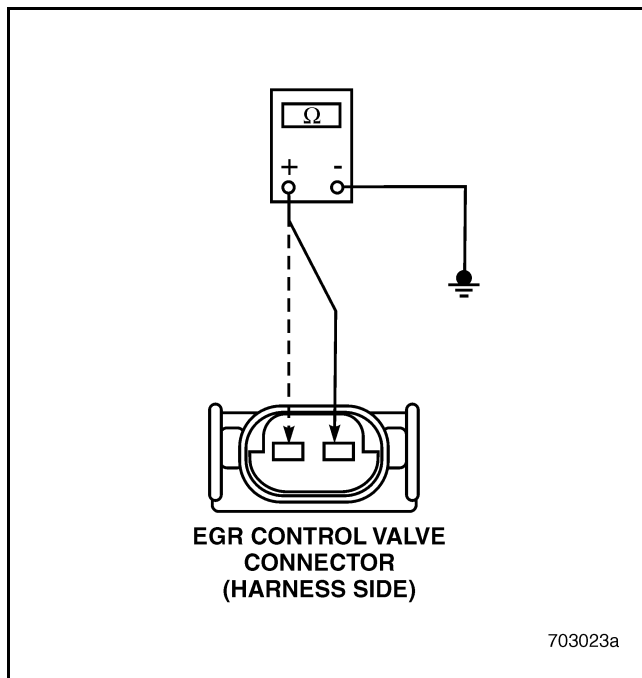

Figure 526
4. Check for continuity between each pin of the EGR Control Valve harness connector versus a good ground (see Figure 526).